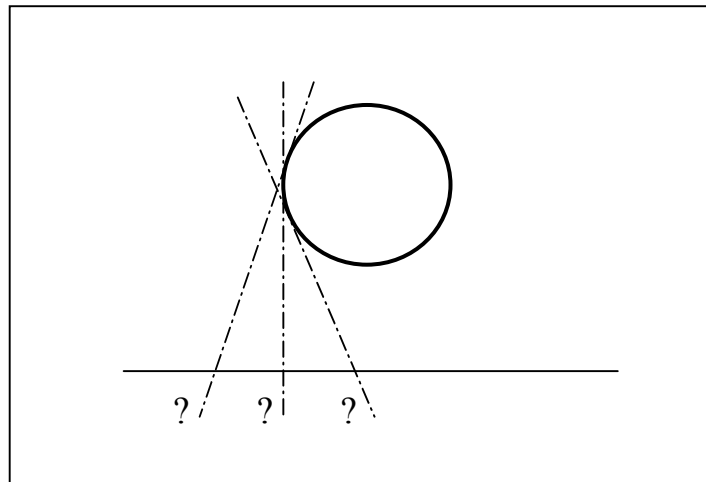

Figure 4
- NEVER use round objects to measure from, since exact positions of cables cannot be located as indicated in figure 4: